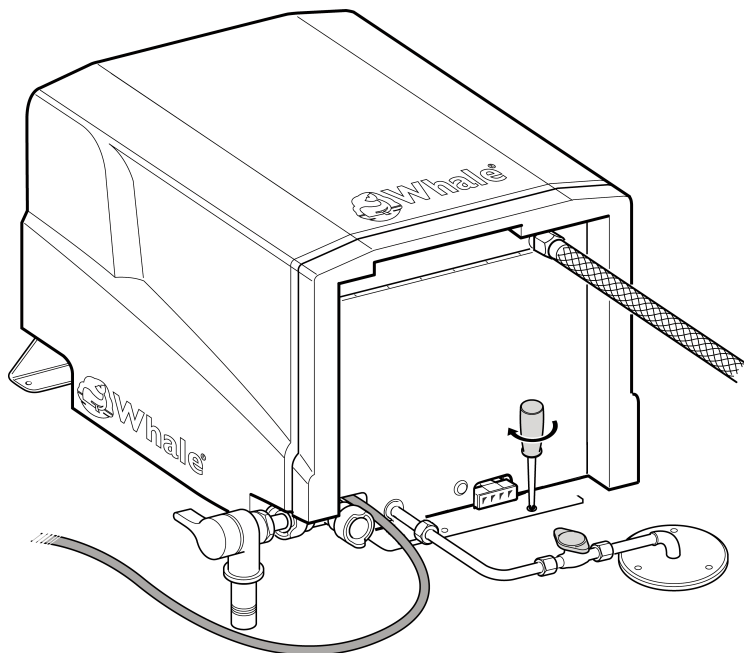

Fig. 16
Step 8 Connect to gas supply (see Fig. 16)